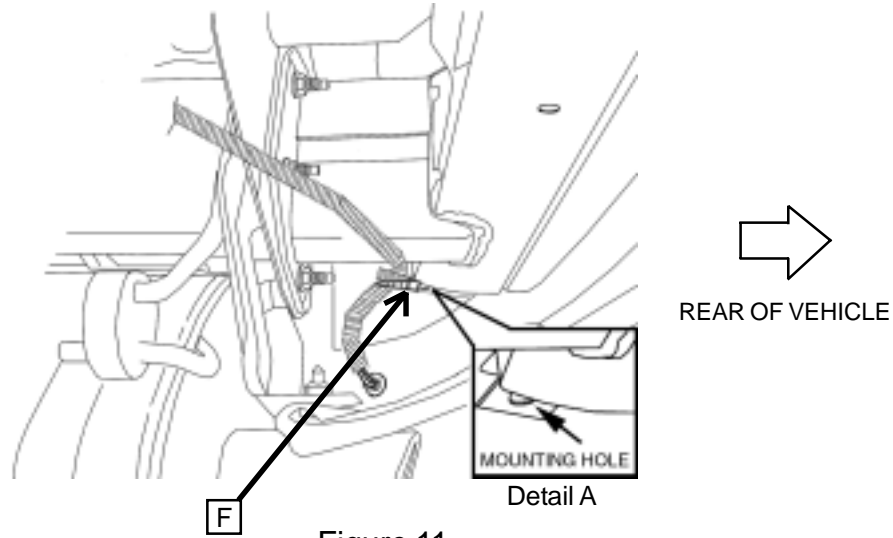

Figure 11.
6.) While removing cable slack, wrap one cable tie **F** through the mounting hole at the end of the bumper beam shown in Detail A of Figure 11 and around the sensor cable marked "R" then tighten.